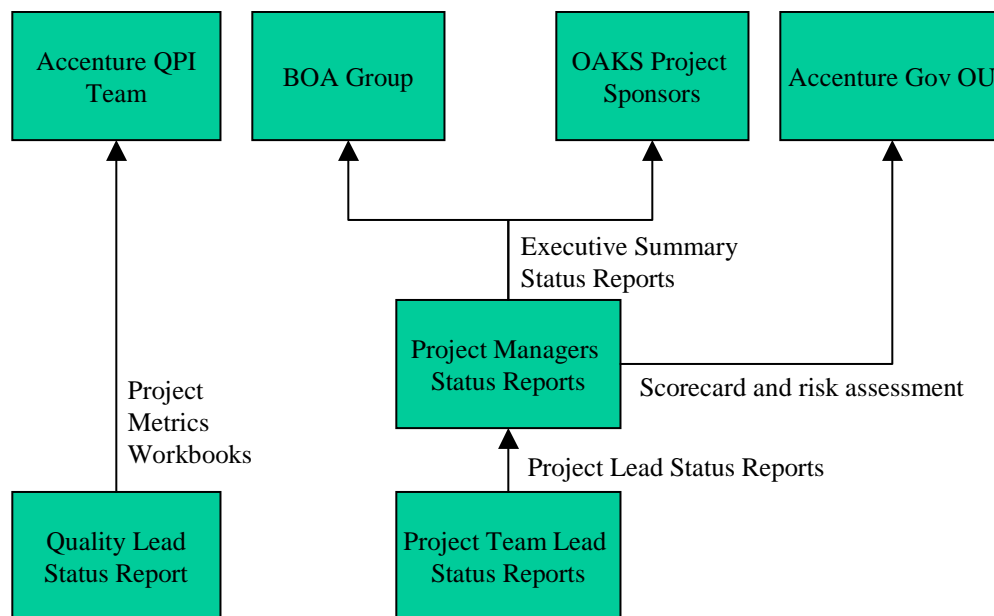

Figure 1 - Project Reporting Hierarchy
- FIGURE 1 - PROJECT REPORTING HIERARCHY 2
Figure 1 shows the project reporting structure on the OAKS project.